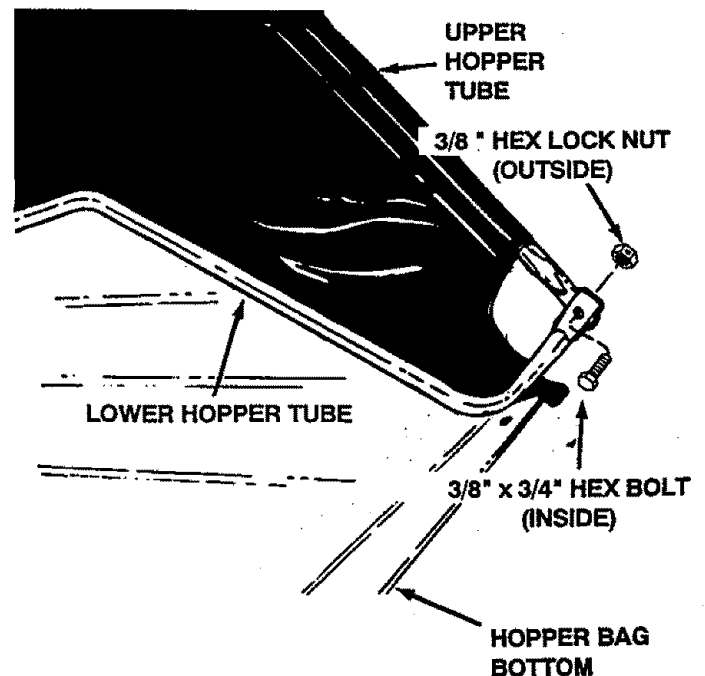

FIGURE 12
- Place the assembled lower hopper tubes into the bottom of the hopper bag as shown in figure 12.
- Assemble the ends of the upper and lower hopper tubes together using two 3/8" x 3/4" hex bolts (on the inside) and two 3/8" hex lock nuts (on the outside). Tighten to allow bag to pivot freely. See figure 12.